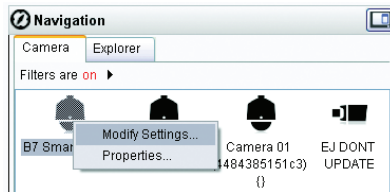
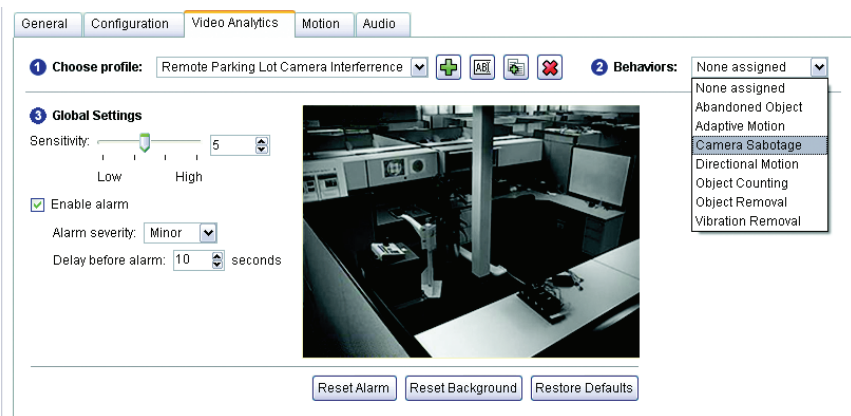

Figure 1. Selecting a Camera to Modify
Figure 2. Video Analytics Tab
2. In the Camera navigation pane, right-click a camera connected to an NET5301T-I intelligent encoder, and then select Modify Settings from the shortcut menu (refer to Figure 1). The Device setup screen appears. If necessary, click the Video Analytics tab (refer to Figure 2).